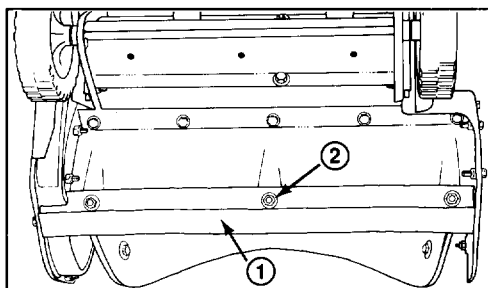

Figure 12
4. Remove (3) carriage bolts and (3) flange nuts holding scraper in place (Fig. 12). Remove scraper.